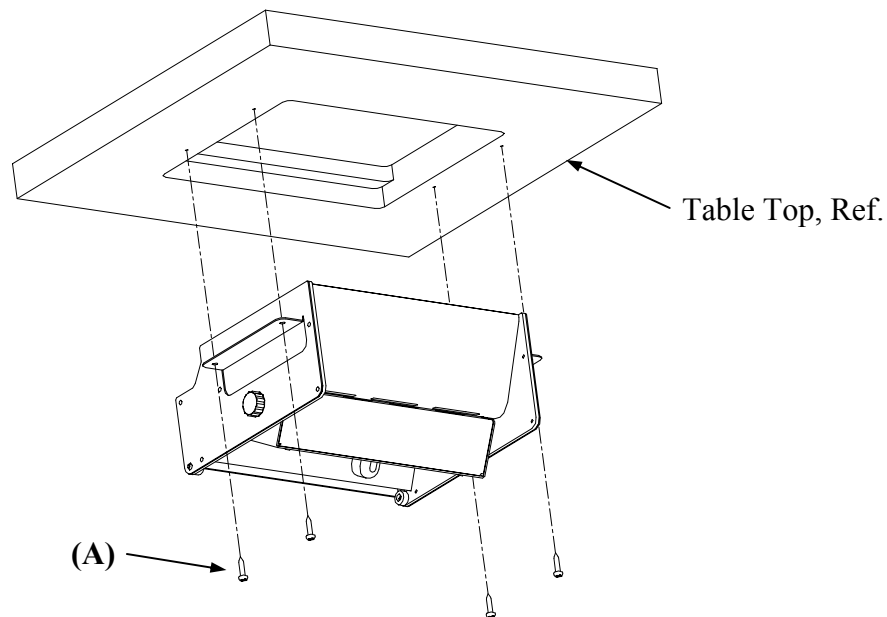

Figure 1: Techport Attachment
Step 1 Position the Techport assembly under the top per Figure 1, aligning the pilot holes in the top with holes in the mounting brackets. Attach the Techport assembly to the top using the #10x1" screws supplied.